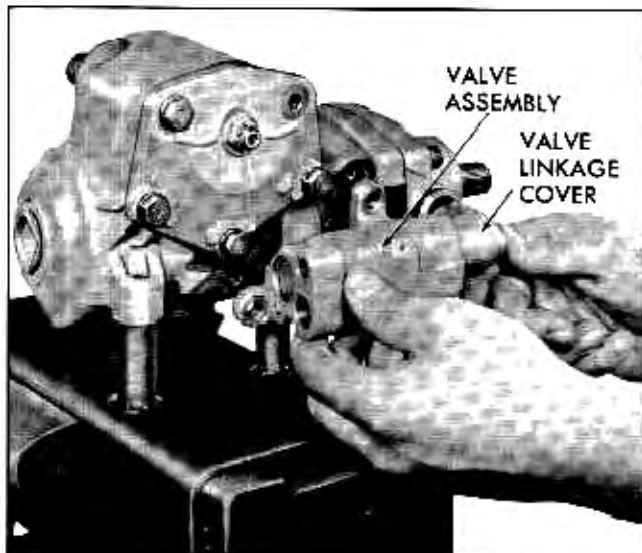

Fig. 9-28 Removing Control Valve and Linkage Cover
2. Remove valve assembly bolts and washers and lift valve assembly and linkage cover off gear housing (Fig. 9-28).